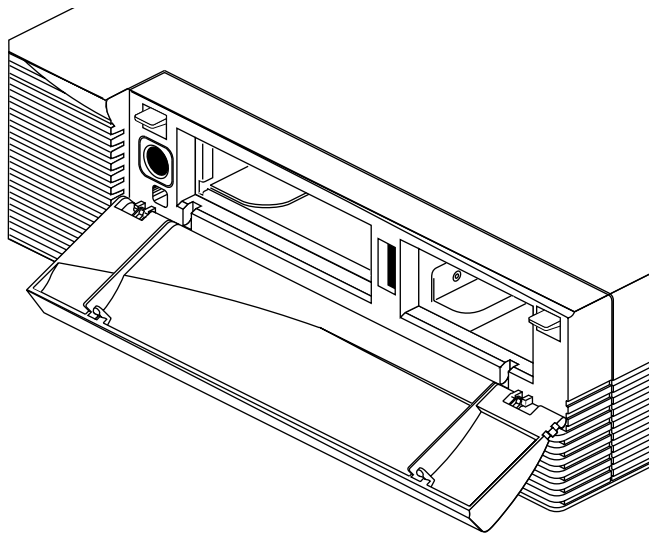

Figure 2-2 Opening the Front Cover
- Snap the cover away from the top edge of the chassis and tip it down, as shown in Figure 2-2.